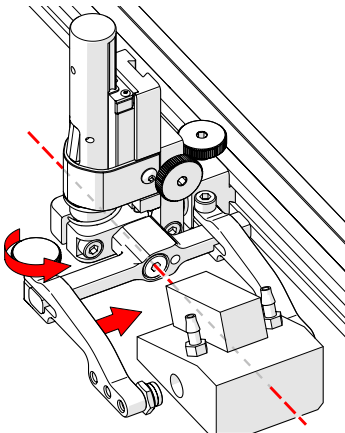

Fig. 107 - Adjust outer arm
5. Loosen the probe holder arm adjustment knob (Fig. 107) and slide the probe holder arm along the yoke pinching the wedge in place.